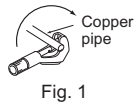

Fig. 1
- The drain hose should point downward for easy drain flow. (Fig. 1)
- Put the refrigerant piping and the drain hose together, then firmly apply felt tape (3) from the end. Felt tape (3) overlap width should be 1/3 the tape width. Use a bandage stopper at the end of felt tape (3). (Fig. 1)
- Pull out the drain cap at the rear right of the indoor unit. (Fig. 1)
- 1) Cut the copper pipe correctly with pipe cutter. (Fig. 1, 2)